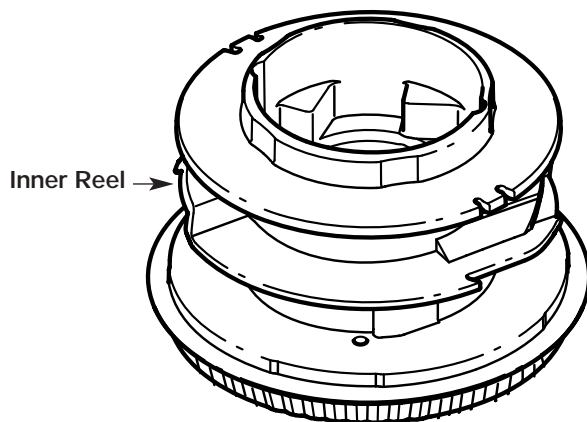

Fig. 25
4. Remove any existing line from the inner reel before cleaning. Remove any debris or grass from the knob, spring, inner reel and foam seal. Wash the inner reel (Fig. 25) with warm soapy water.